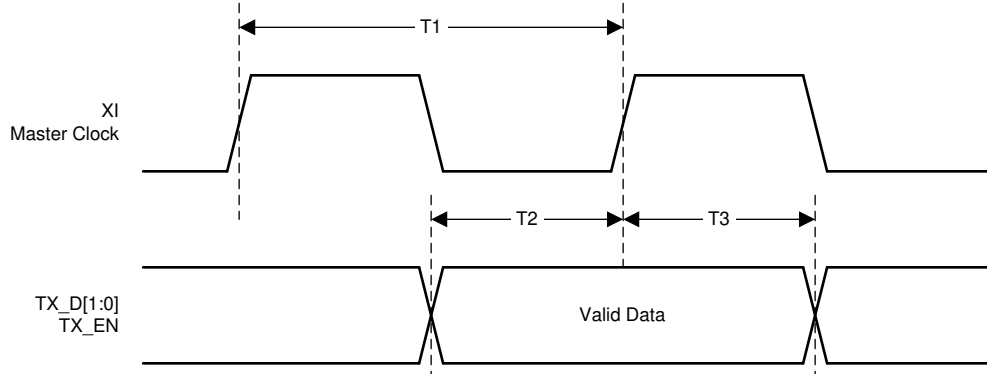

Figure 7-9. RMIITransmit Timing
- (1) Ensured by production test, characterization or design.
(2) See Figure 7-9.